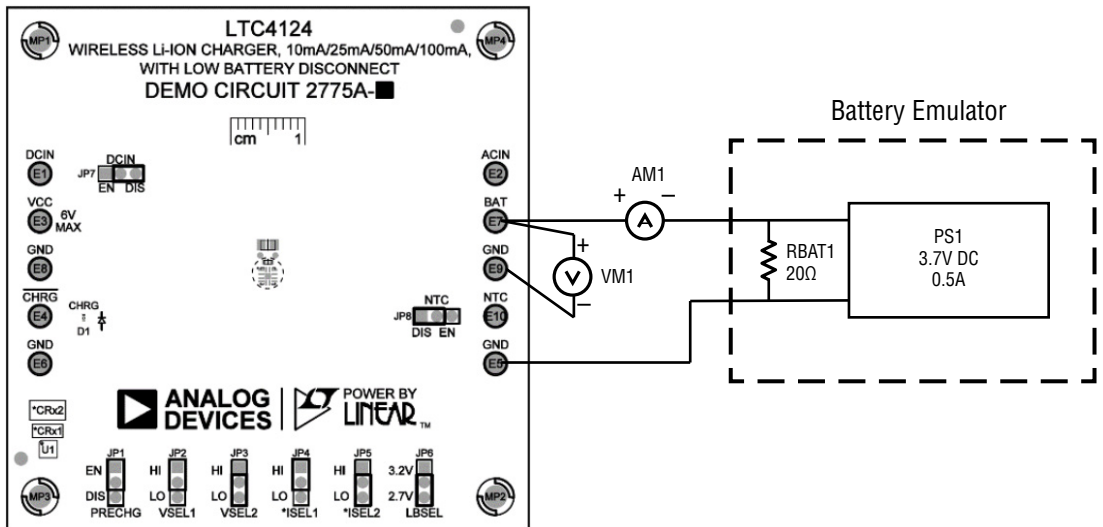

Figure 4. DC2775A-C Top
3. Connect a voltage source PS1 and a 20 Ohm resistor RBAT1 between the BAT and GND turrets of DC2775A-C, respectively (Figure 4). PS1 and RBAT1 make up the battery emulator. Typical power supplies cannot sink current. By adding a resistor across the power supply inputs that draws more current than the